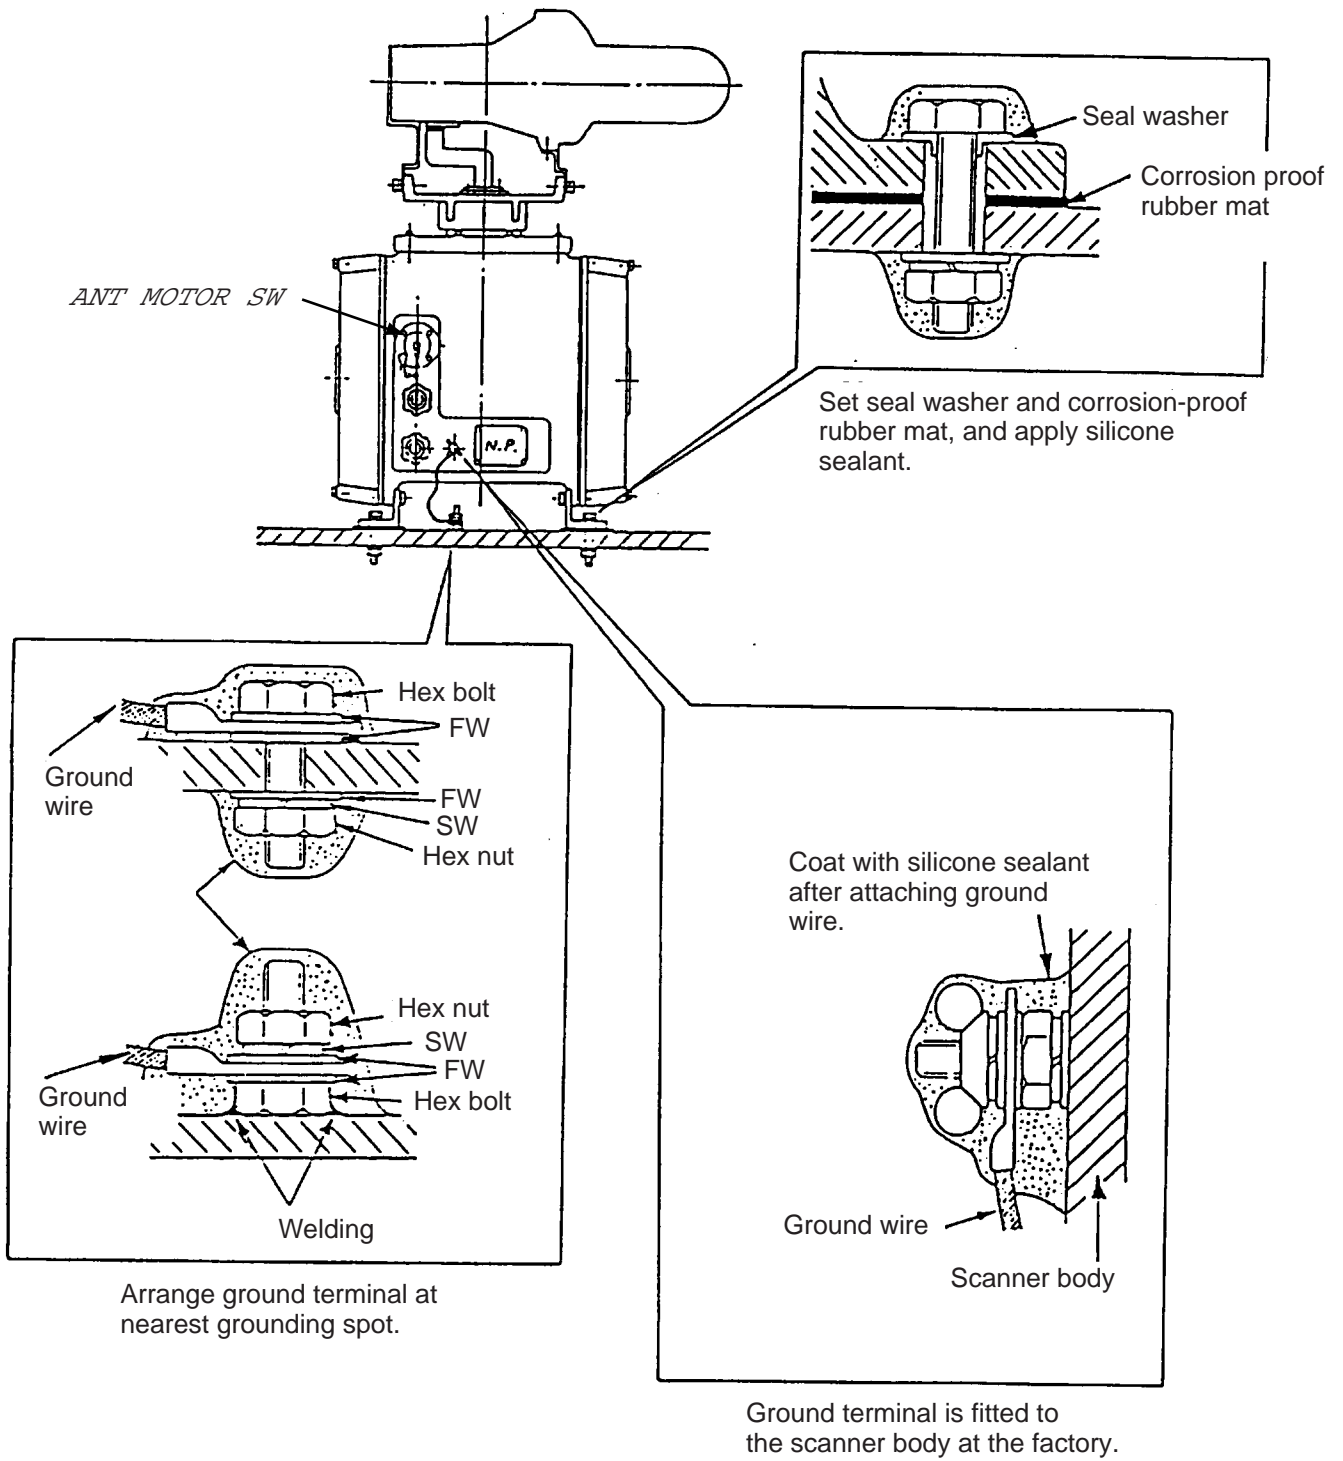

Figure 1-4 Mounting of scanner unit
2. Turn off the ANT MOTOR SW on the scanner unit(Refer to figure 1-4).